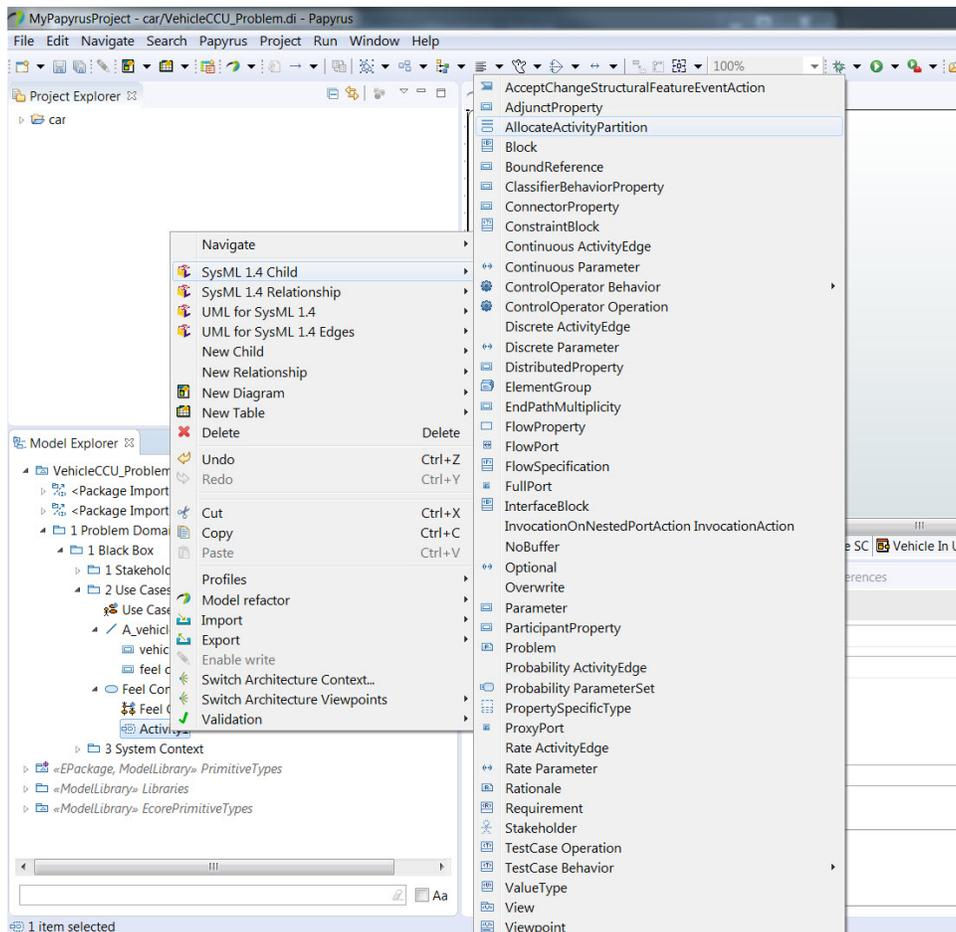
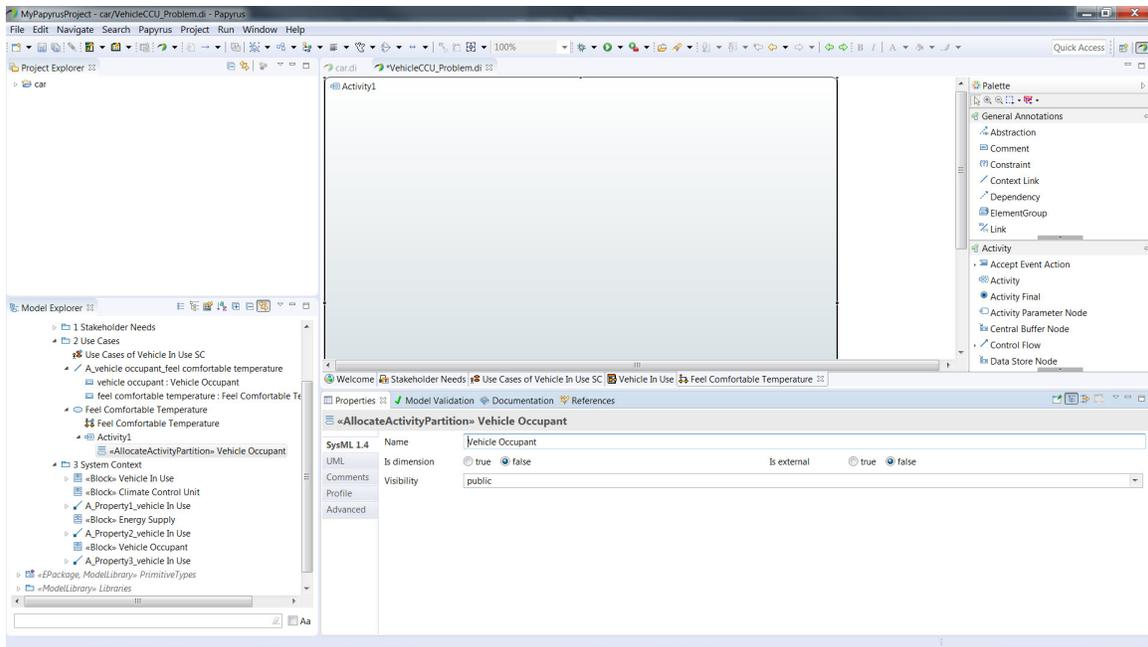
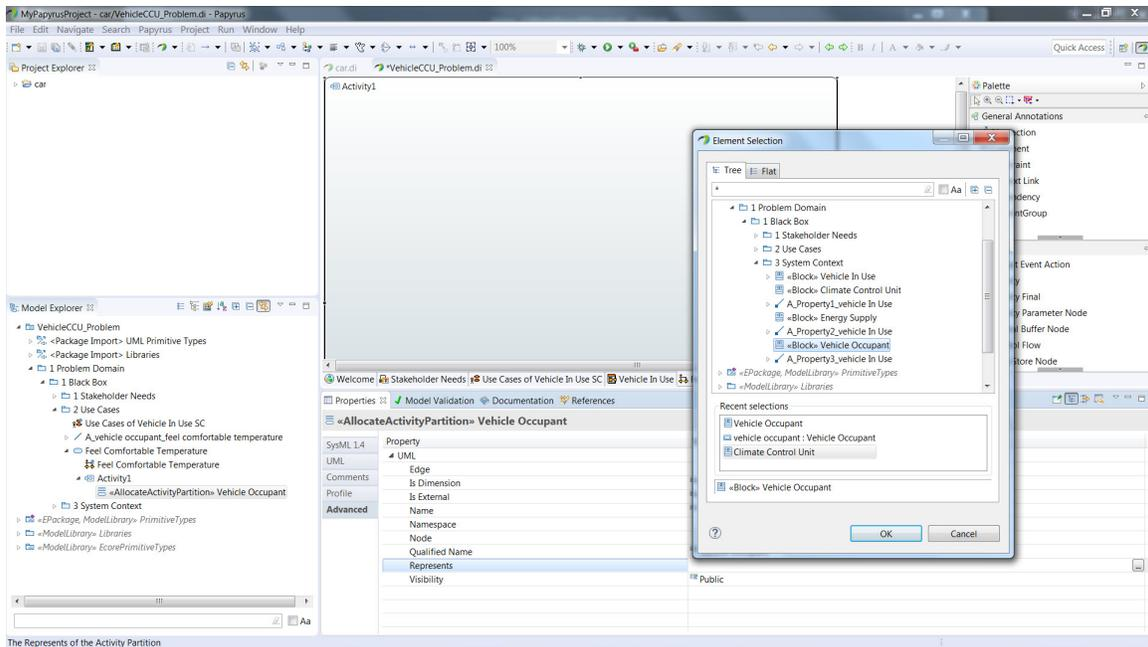
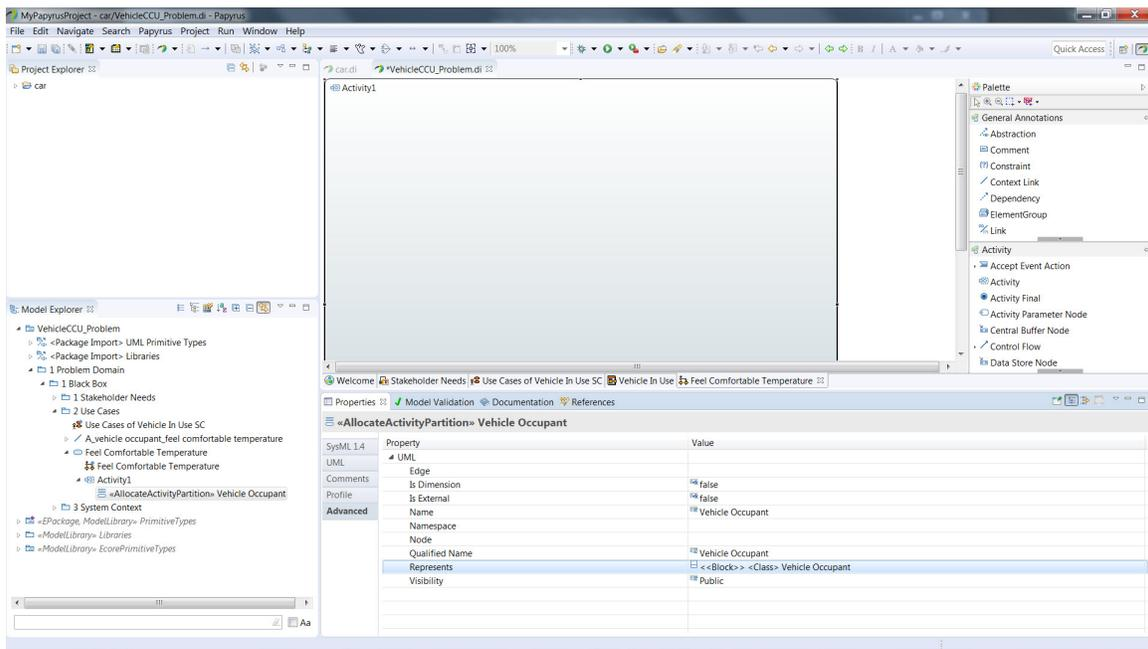

Figure 38: New Activity Partition (Swimlane)
Figure 39: Vehicle Occupant Activity Partition Creation
Figure 40: Vehicle Occupant Activity Partition Properties
Figure 41: Vehicle Occupant Activity Partition Typed by Vehicle Occupant Block
10. We could start diagramming our activities in the activity diagram first and then allocate the activities to participants using swimlanes. This is a little cumbersome in Papyrus as it involves dragging the activity boxes and connectors onto the swimlanes and some effort to make your diagram “pretty” again. If we know the participants in the activity we can go ahead and create the participant swimlanes first and then populate the activities. That is the approach we will follow. In the *Model Explorer* window Right-click on the *Activity 1* then select **SysML 1.4 Child** and then **AllocateActivityPartition** (figure 38). Name this partition *Vehicle Occupant* (figure 39).
11. Although we have named our new activity partition *Vehicle Occupant* it does not truly represent the vehicle occupant in our use case until we type it by the *Vehicle Occupant* block. We do this as follows. First ensure that the *Vehicle Occupant* activity partition is selected in the *Model Explorer* window and you see its properties in the **Properties** tab in the bottom center of the screen (figure 39). Now click on **Advanced** tab and look for the **Represents** property and Double-click in the **Value** cell and a pop-up element selection should appear (figure 40). Expand **3 System Context** package and select the *Vehicle Occupant* and then select **OK**. The value of the **Represents** property should look like figure 41. Our activity partition is now typed by the *Vehicle Occupant* block.